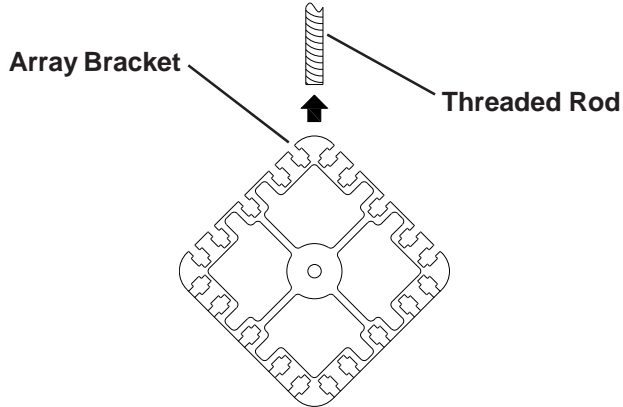

Figure 7a:
1. Apply non-permanent threadlocker, such as Loctite 242, to the 3/8" threaded rod and thread the array bracket onto the rod, using the corner hole. Leave approximately 1.5" of the threaded rod inside the array bracket (Figure 7a).